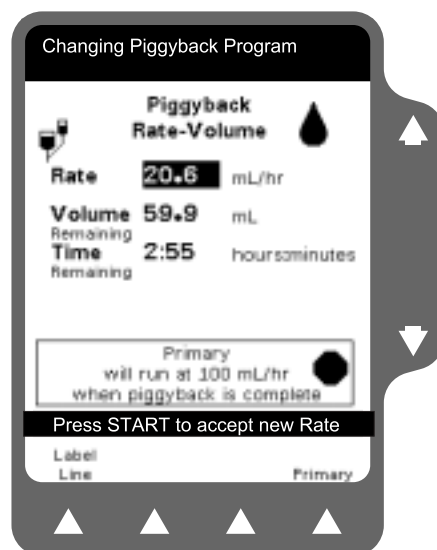

Figure 3-27 New Rate Running
3. Press the **START** key to save the change and begin infusing at the new rate (Figure 3-27).